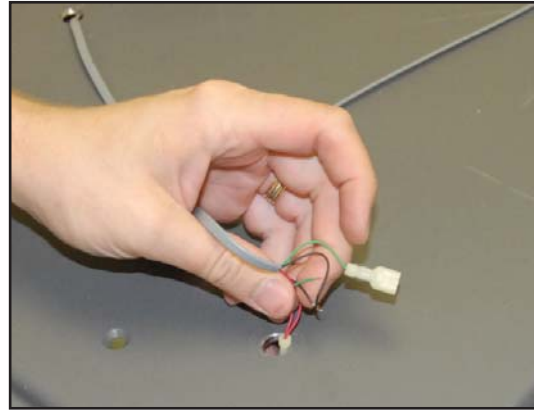

FIGURE 6.68
4. Feed the Fastons, one at a time, up through the hole in the table. Refer to **Figure 6.68**.